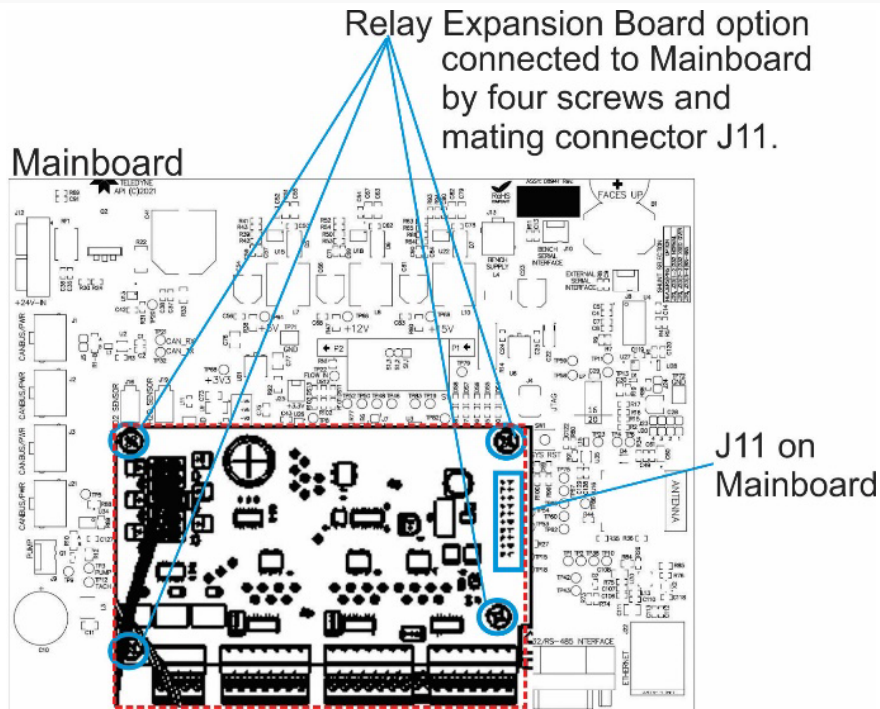

Figure 7-8. Relay Board Removal
2. Locate the relay expansion board (Figure 7-8), and remove the four screws.